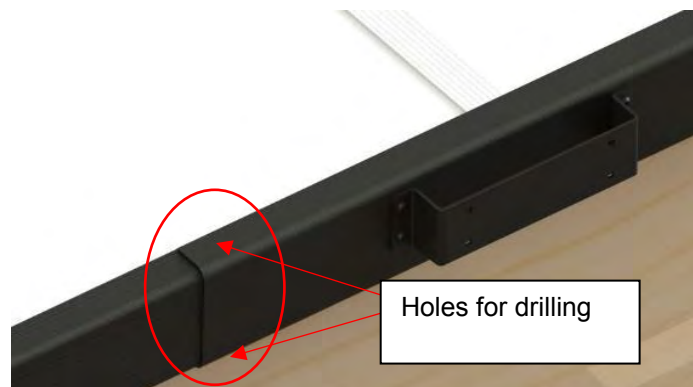

Figure 79
39) Use the provided 5/32 in. drill bit to drill the holes on the top and bottom of the support bracket (four holes per bracket) (Figure 79 and 80). Use the pre-drilled holes in the support bracket as guidance.